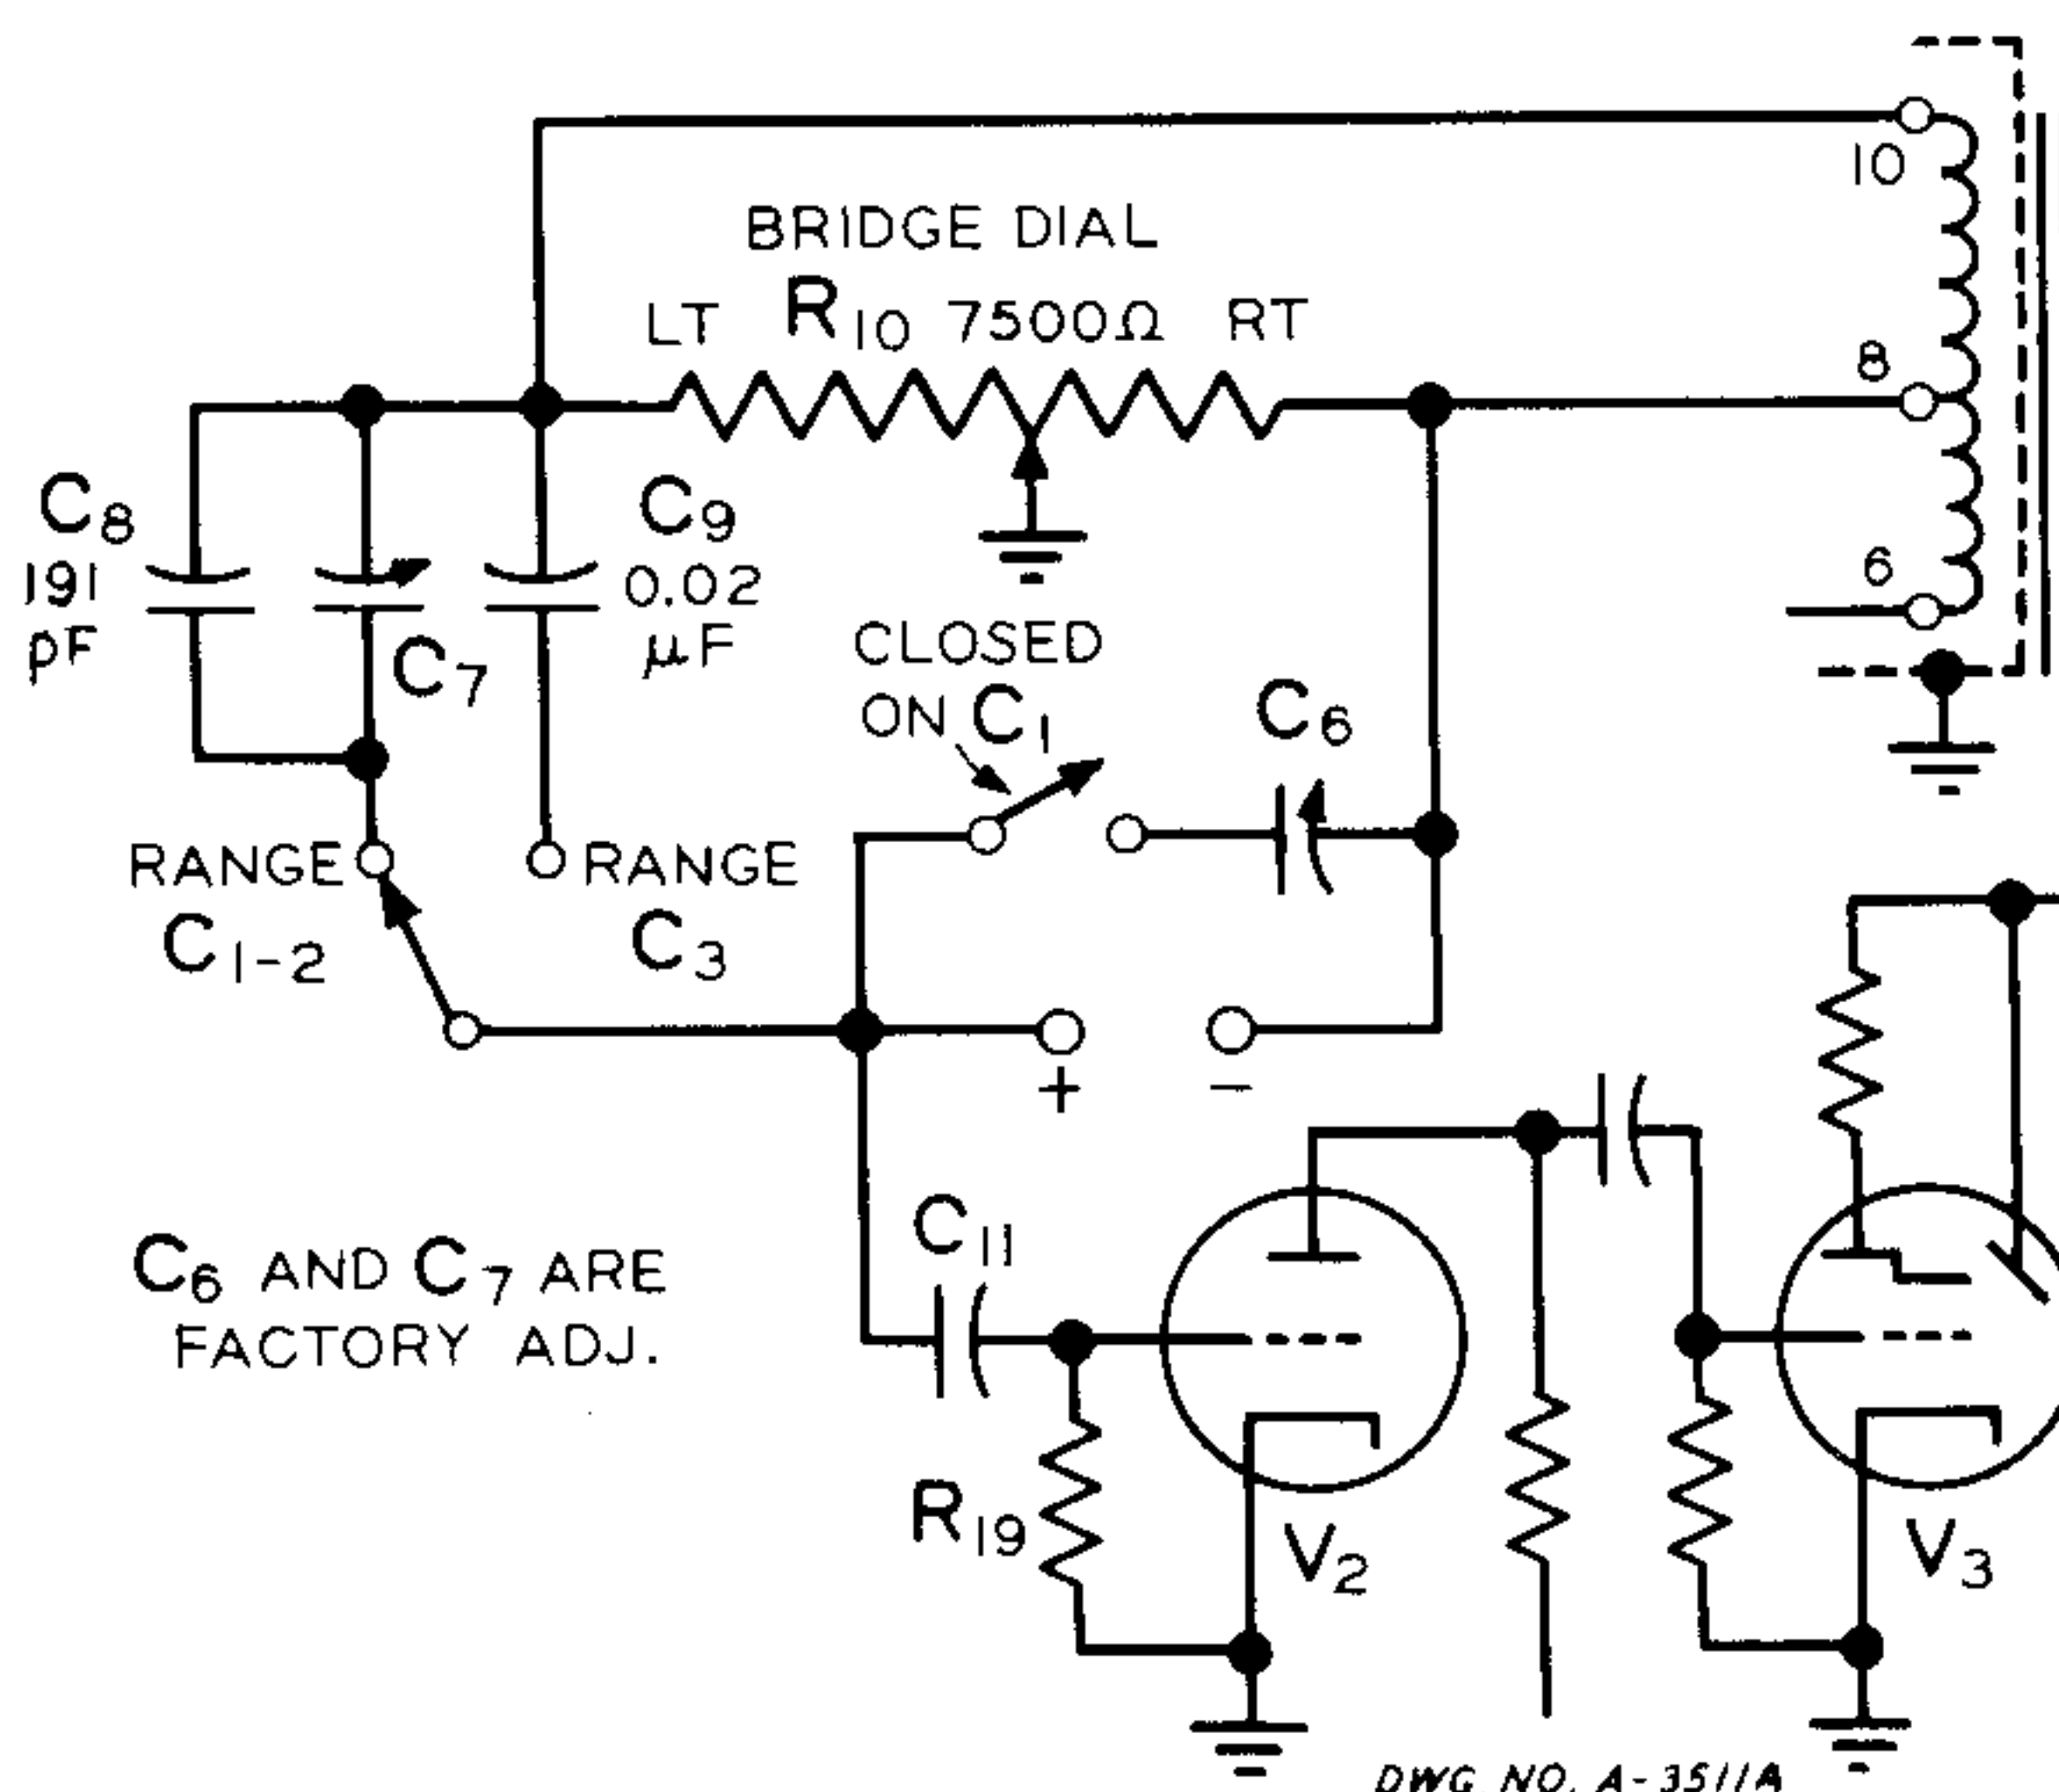
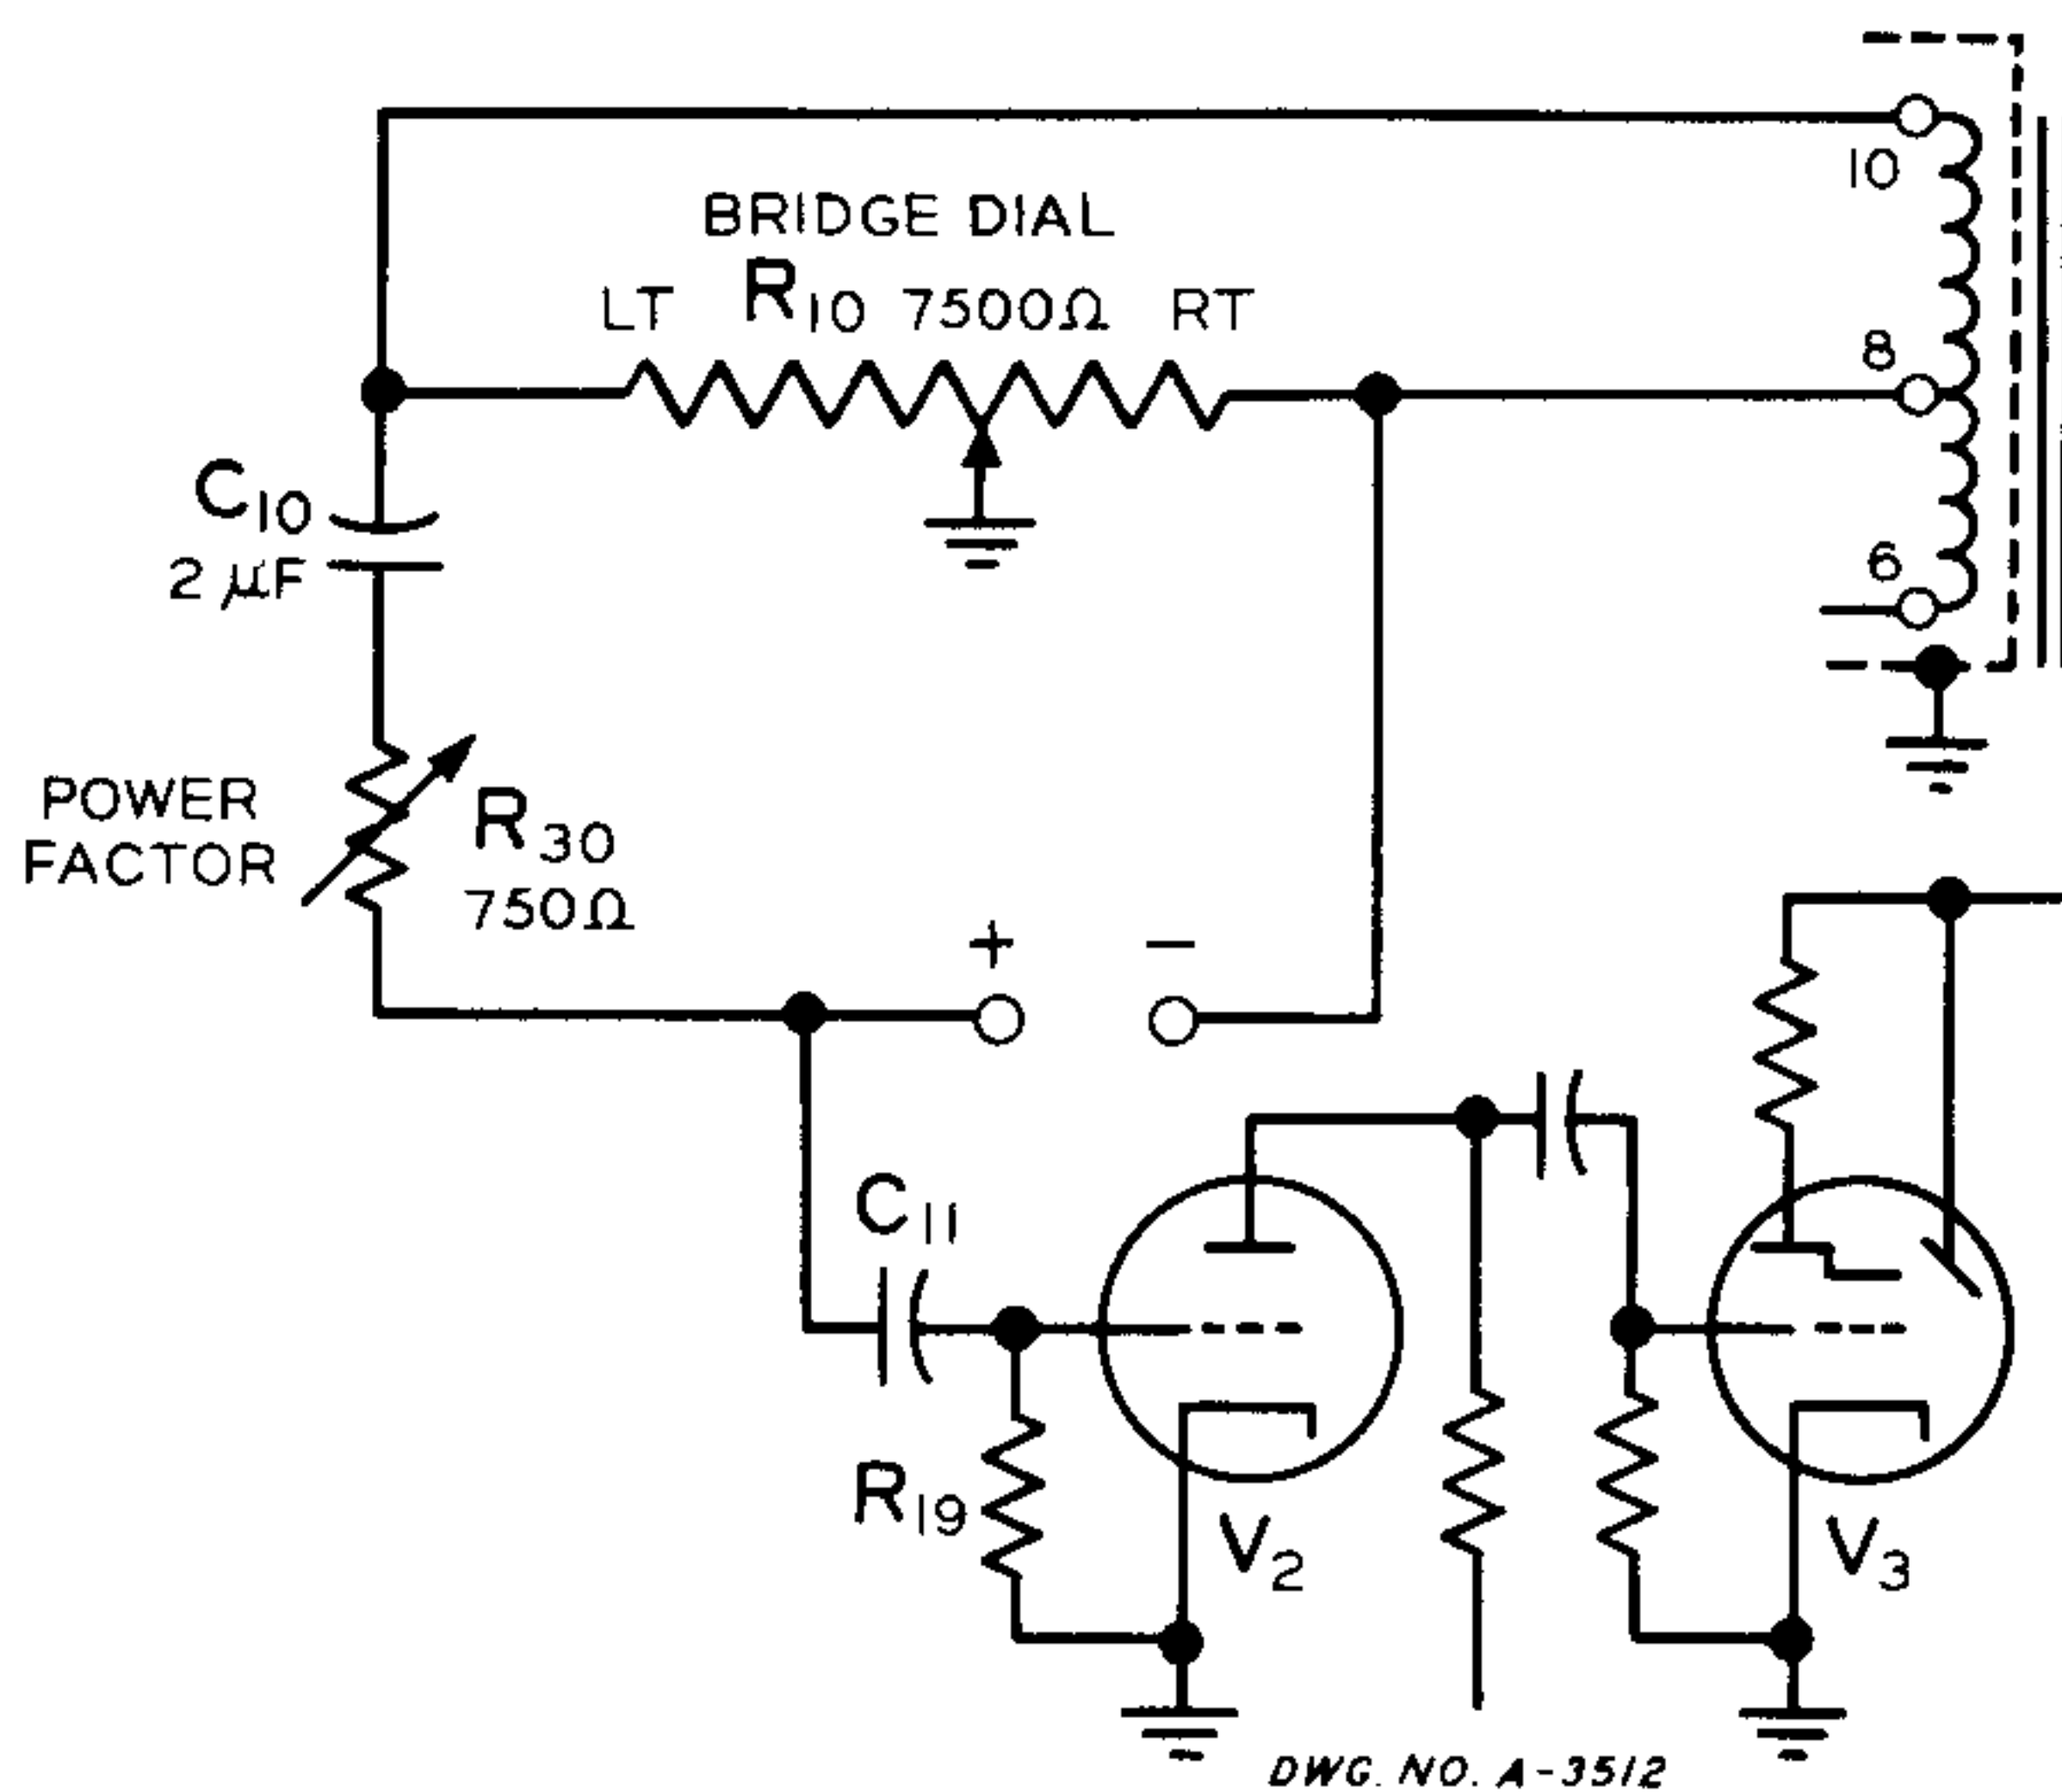
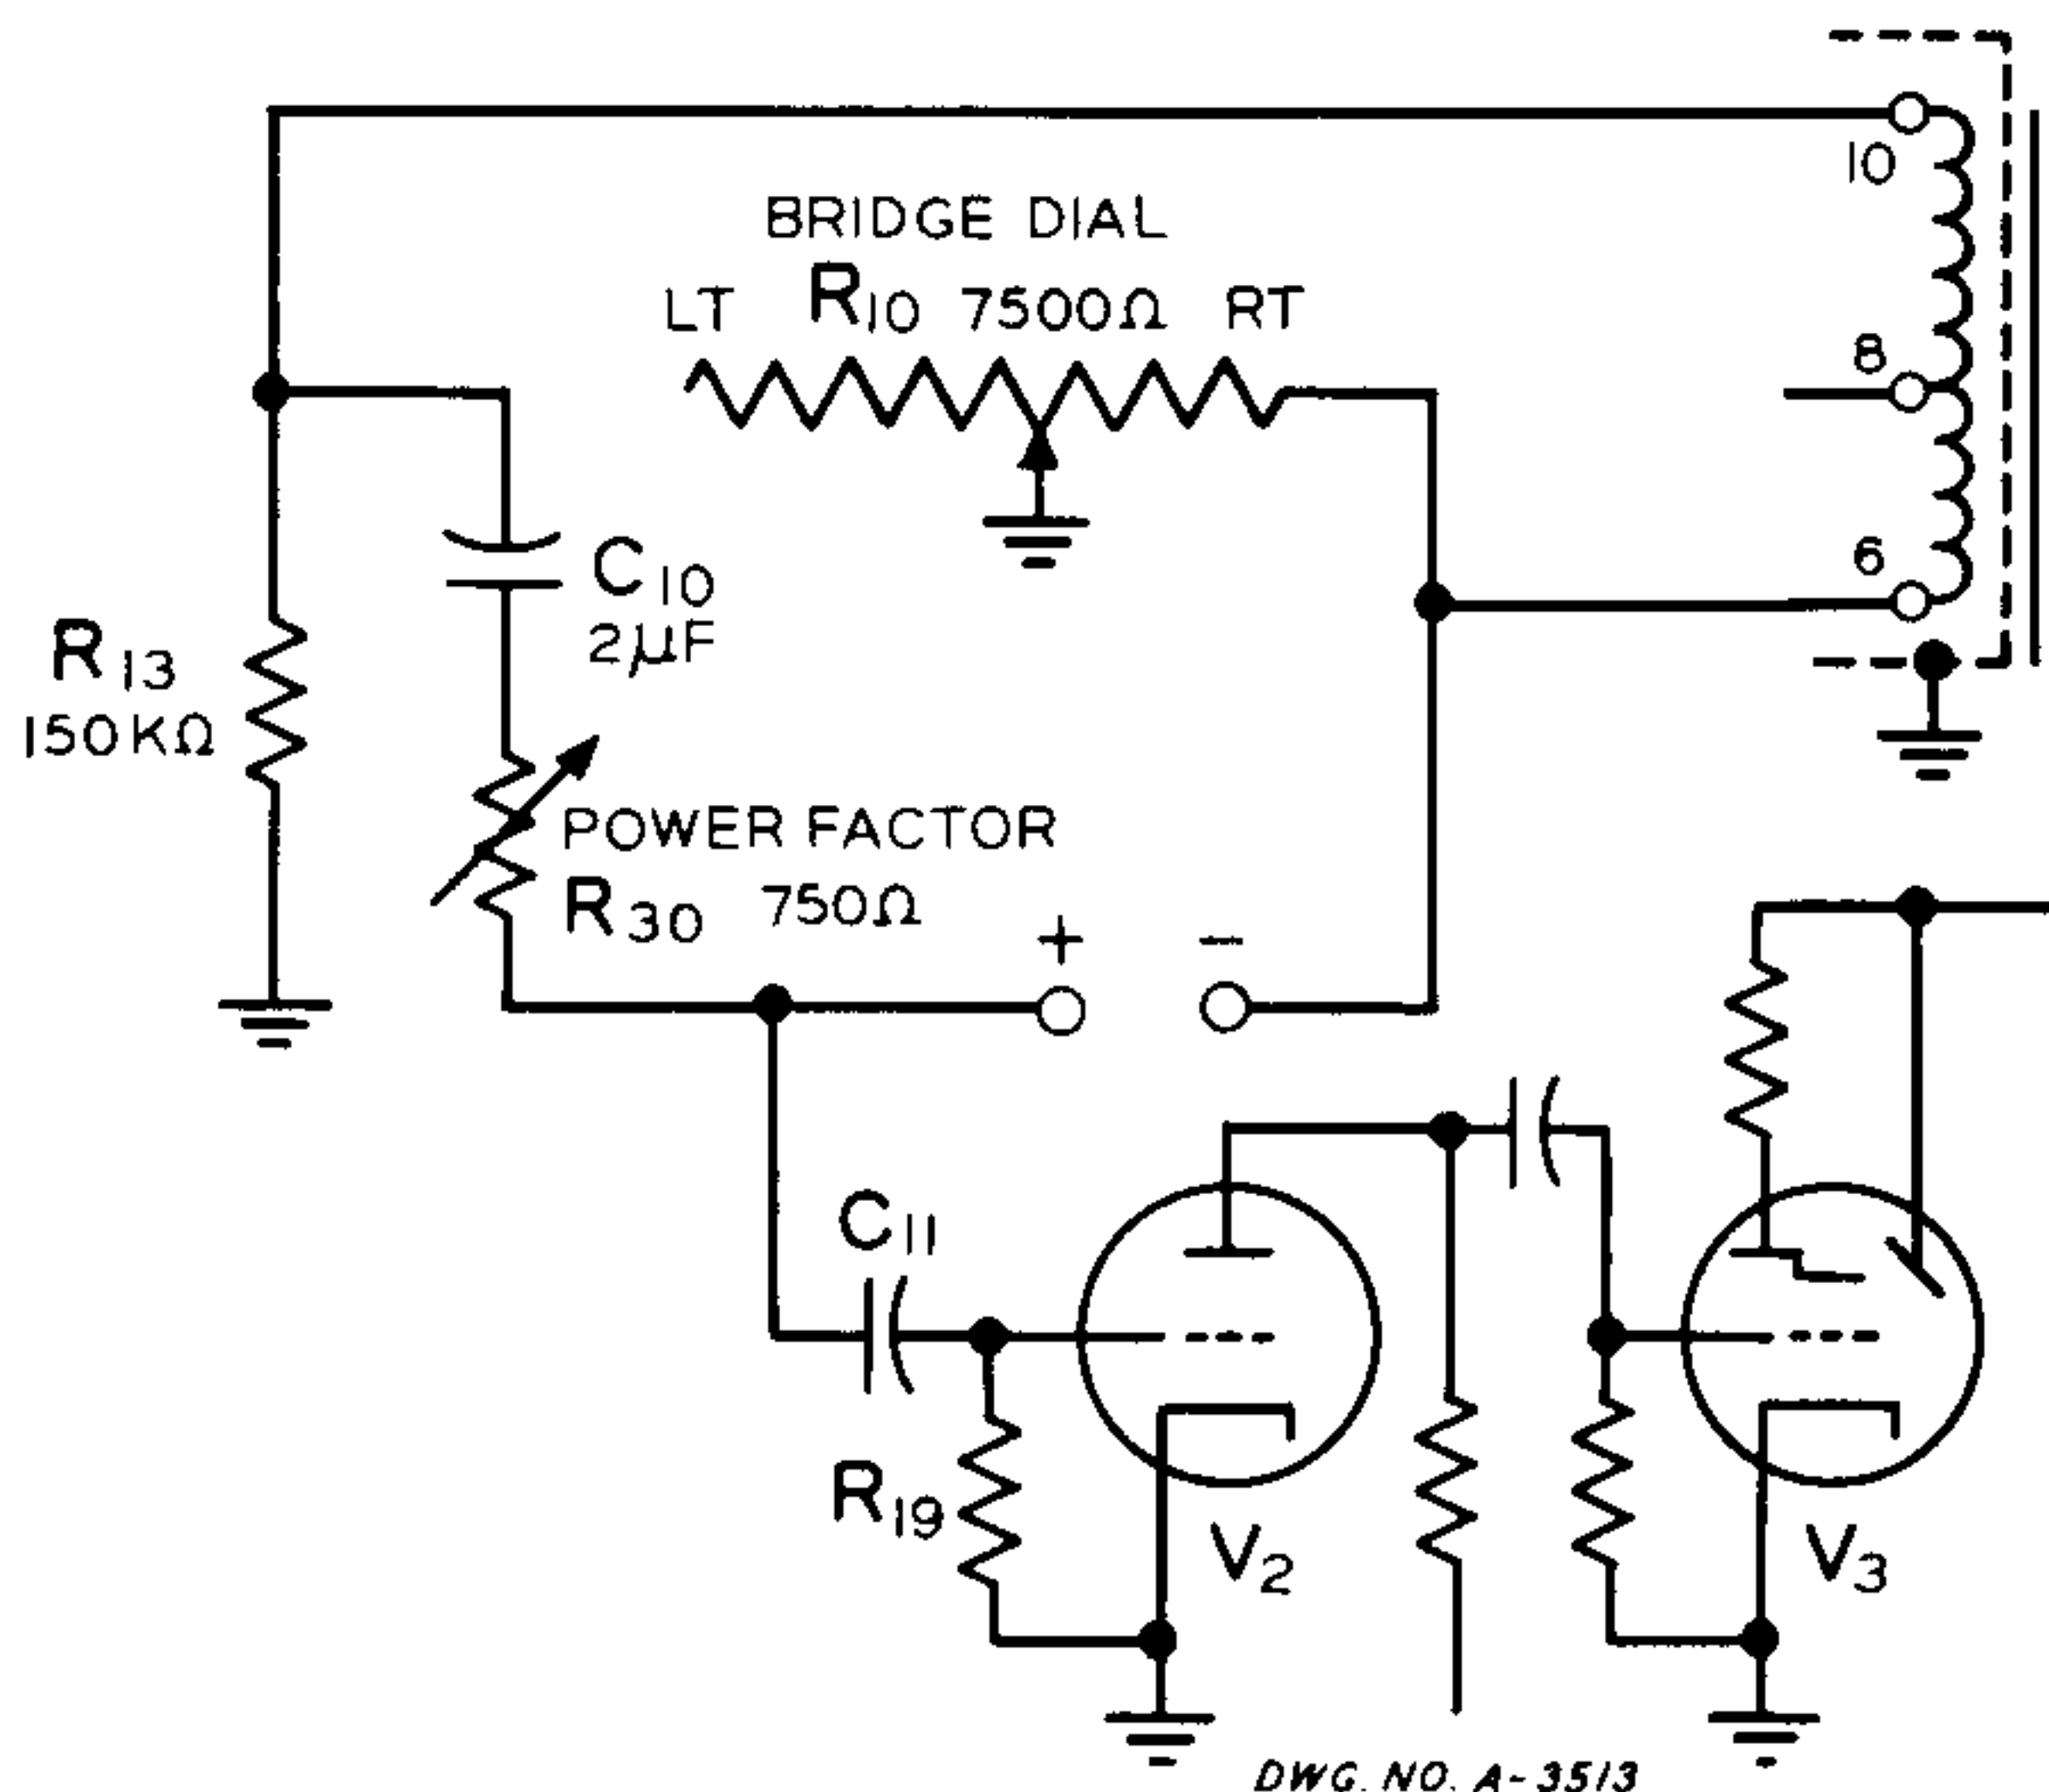

FIGURE 1
FIGURE 2
FIGURE 3
**2.1 Measurements of capacitance from 1 pF to 2000  $\mu$ F are made on a 5-range line frequency capacitance bridge. Figure 1 shows a simplified circuit diagram of the bridge employed for the  $C_1$ ,  $C_2$ , and  $C_3$  ranges. Figure 2 shows the basic bridge circuit for the  $C_4$  range and Figure 3 is the simplified circuit for the  $C_5$  range. Since the bridge is balanced on all ranges by continuously varying the ratio arm, a highly accurate, linear-taper wirewound variable resistor is used for the main bridge element. These potentiometers are especially selected to assure accurate matching of the calibrated scales over their full length. The standard capa-**